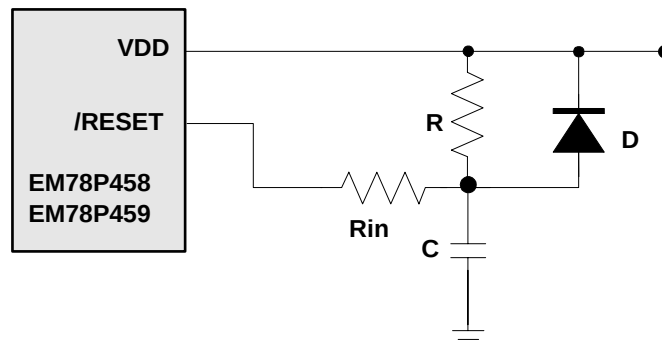

Fig. 22 External Power on Reset Circuit
The circuit shown in Fig. 22 implements an external RC to produce a reset pulse. The pulse width (time constant) should be kept long enough to allow V_{dd} to reach minimum operation voltage. This circuit is used when the power supply has a slow rise time. Because the current leakage from the /RESET pin is about $\pm 5\mu\text{A}$, it is recommended that R should not be great than 40 K. In this way, the voltage at Pin /RESET is held below 0.2V. The diode (D) acts as a short circuit at power-down. The capacitor, C, is discharged rapidly and fully. R_{in}, the current-limited resistor, prevents high current discharge or ESD (electrostatic discharge) from flowing into Pin /RESET.